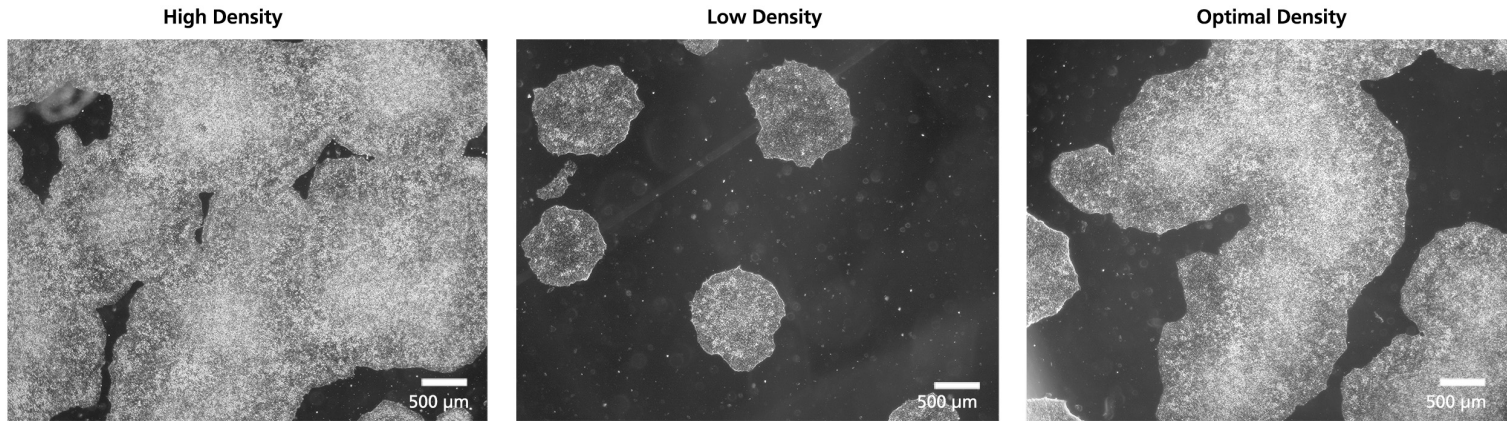

Figure 2. SCTi003-A-3 hiPSCs Demonstrate Varying Colony Densities When Seeded at a Range of Starting Concentrations.
14. On Day 6 - 8, select the well with optimal hiPSC colony density for passaging (Figure 2). The culture should consist of healthy hiPSC colonies that are medium to large, compact, and have centers that are dense compared to their edges.